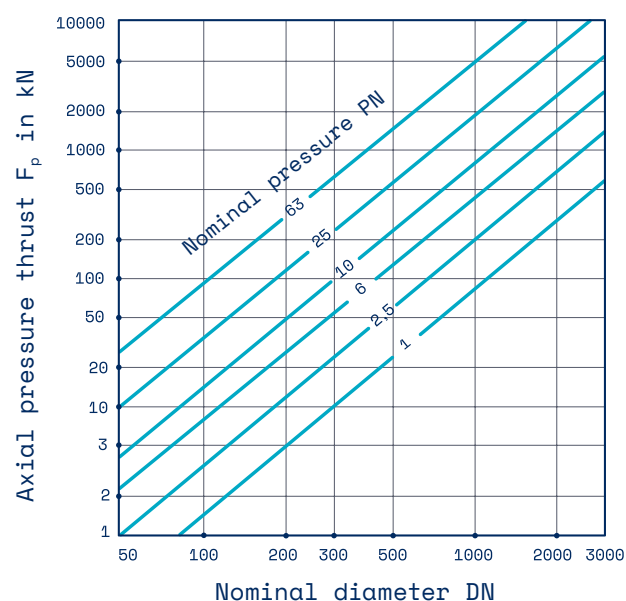

Fig. 2: Axial pressure thrust in pipeline with axial expansion joint
- Make sure that the fixed points at the ends of pipeline sections containing an expansion joint are of adequate size. These must be able to withstand not only the axial pressure thrust (in unrestrained expansion joints), but also the adjustment force of the expansion joint and the friction forces of the pipe guides and supports – in particular the axial pressure thrust can be very large (Fig. 2).